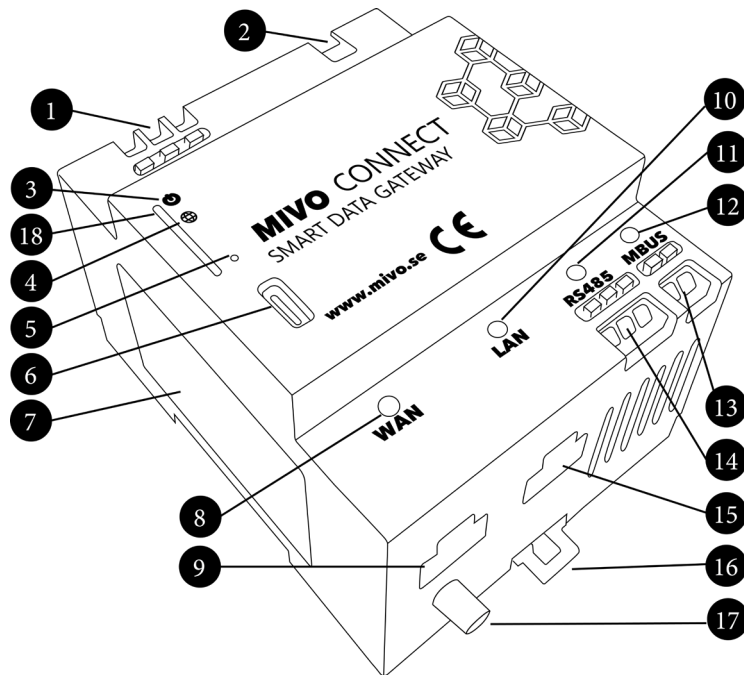

Figure 2 Product description
The product must be mounted vertically with terminal connector 1 and 2 in figure 2 facing upwards, no other rotation is allowed.
2. Tilt the product down until the bottom latch snaps in place, if necessary use a small screwdriver to pull the latch(item 16 in Figure 2) down.
2. Pull the bottom latch (item 16 in Figure 2) down with a screwdriver and tilt the product upwards.
The device must only be used on 230V 50Hz ac mains protected by a fuse of 16A or less, a fuse of 6A is recommended. Power should be connected to the three power terminals (item 1 in Figure 2) on the top left side of the device. The terminals support cables ranging from 0.75mm2 to 1.5mm2. A circuit breaker must be installed breaking both Line and Neutral to the device during servicing. Protective Earth must be connected.
This connection is intended for internet connectivity and uses a standard RJ-45 ethernet connector (item 9 in Figure 2) . For heavy industrial use Cat. 5 FTP or better should be used, otherwise Cat. 5 UTP or better is sufficient. If link is found the green LED should light up (item 8 in Figure 2) .
This connection is intended for local connections and uses a standard RJ-45 ethernet connector (item 15 in Figure 2) . By default, this port will work as a router, providing internet connectivity for all devices connected to this port. For heavy industrial use Cat. 5 FTP or better should be used, otherwise Cat5 UTP or better is sufficient. If link is found the green LED should light up (item 10 in Figure 2).